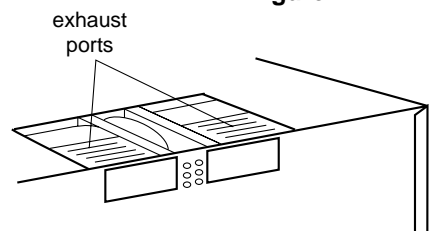

Figure 14
6. Place blower unit upper into cabinet. Check that the exhaust ports face the upper of the cabinet. See Figure 14.